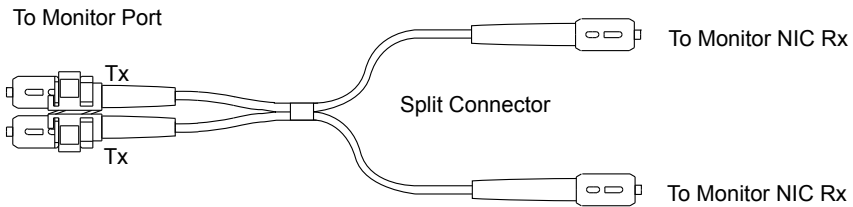

Figure 6: Splitting a Standard SC Cable
If you did not purchase a Net Optics Custom Monitoring Cable, you can easily modify a standard fiber cable by splitting apart the connector on one side of the cable (see Figure 6).
1. Prepare a standard SC cable by removing fiber strands from the connector clip so you have a cable similar to Figure 6.